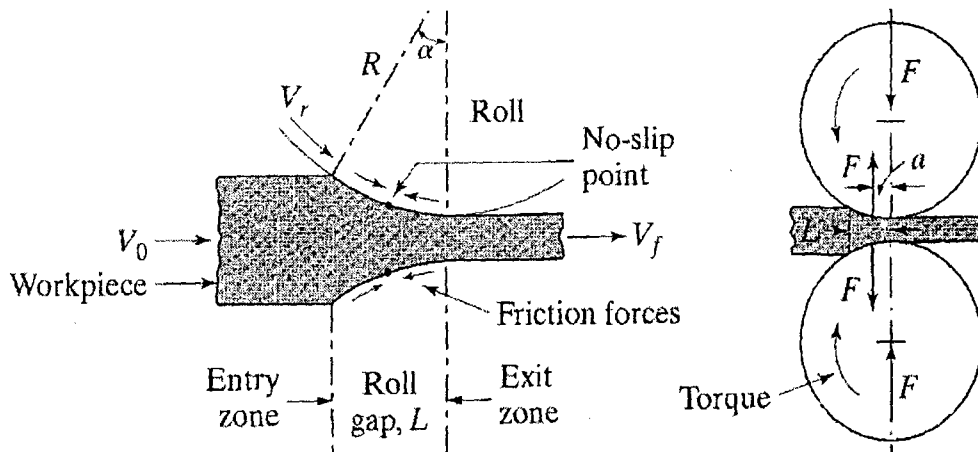

Figure 7/Rajah 7
- (c) Describe the factors that influence the roll force, F , in the above **Figure 7**.